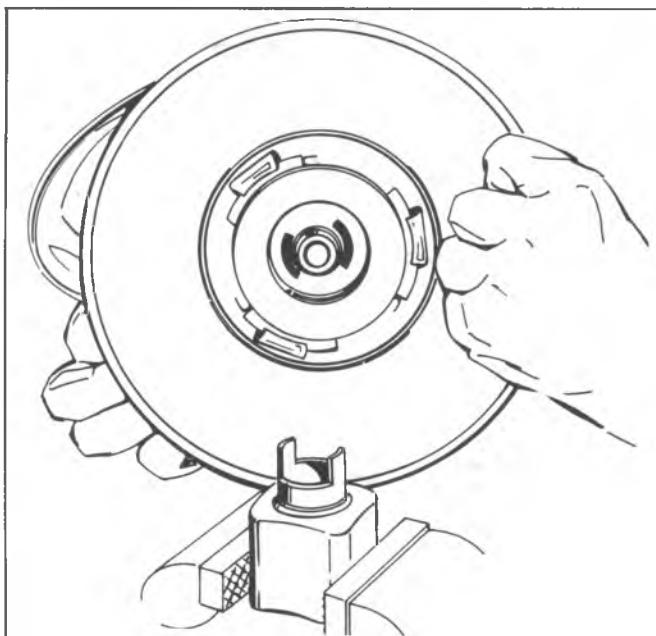

Fig. 5-8A--Positioning Primary Power Piston in Tool J-23101
9. Mount Tool J-23101 in a vise (with small diameter end up). Position the primary power piston so that the two radial slots in the piston fit over the ears (tangs) of the tool (fig. 5-8A).
vise. Position the primary power piston so that the two radial slots in the piston fit over the ears (tangs) of the tool (fig. 5-8A).